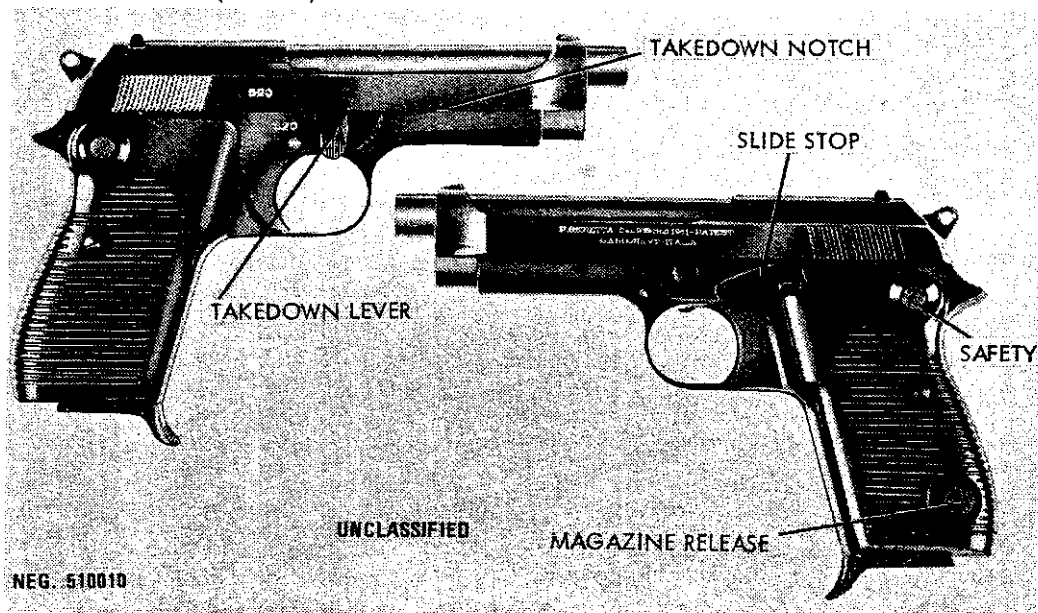
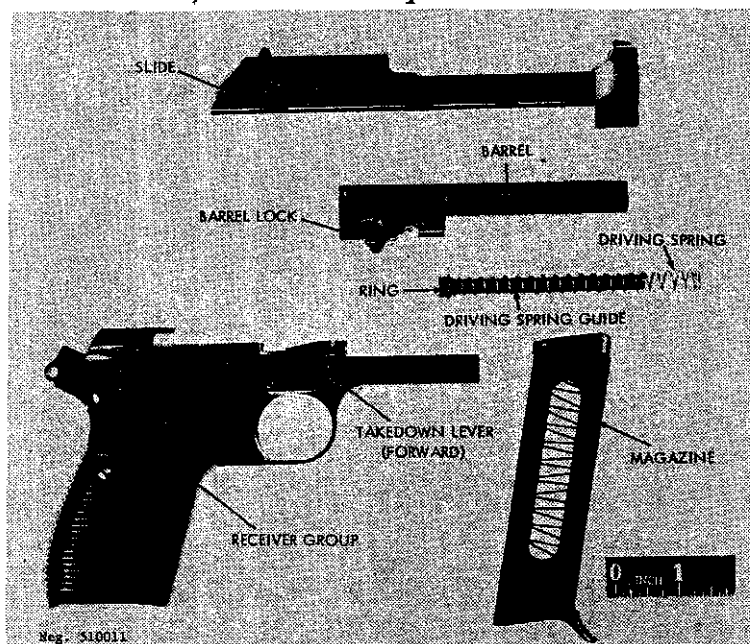
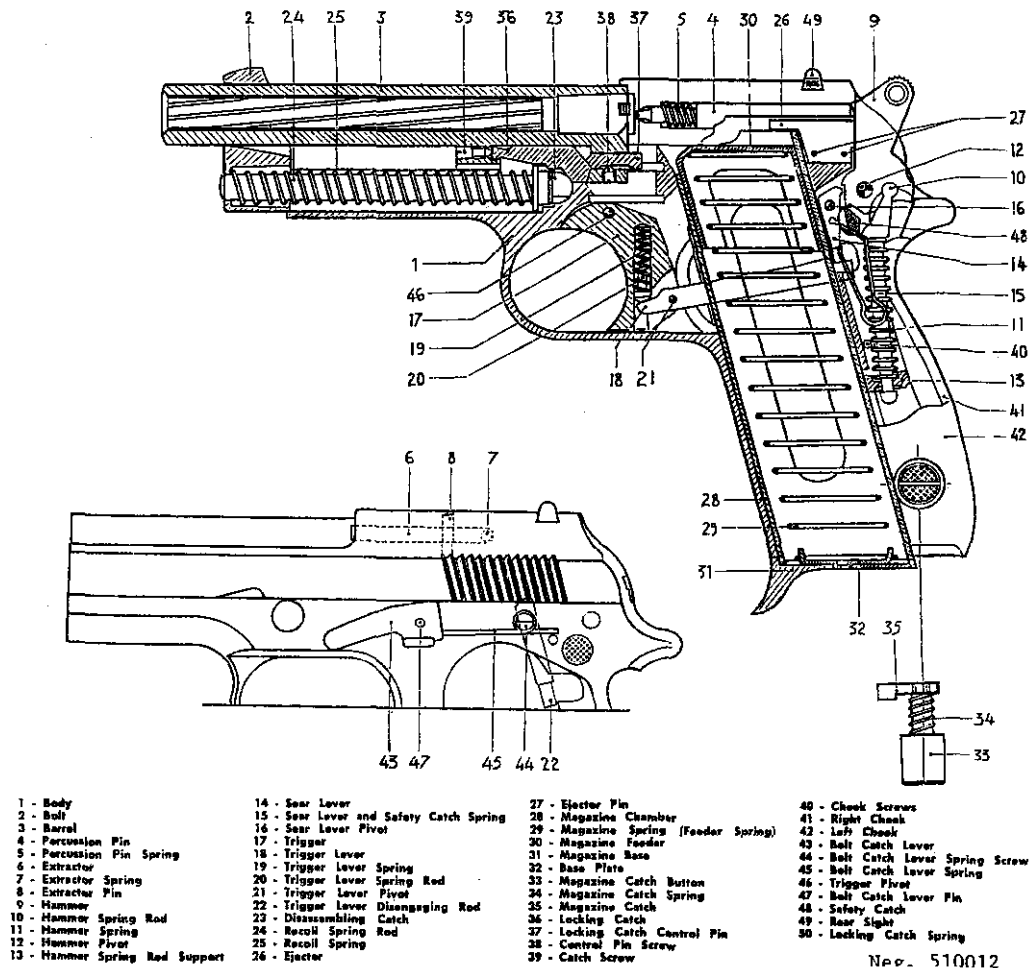

Figure 11. Beretta Model 1951 pistol.
Figure 12. Beretta Model 1951 disassembled.
Figure 13. Beretta Model 1951 section.
The Italian Beretta 9-mm Model 1951 pistol is the standard side arm of the Italian armed forces and has been sold to several other nations. It is a lightweight, recoil-operated, semiautomatic weapon of conventional design (fig 11). The Beretta M1951 fires 9x19-mm ammunition (sec V).
- a. Remove the magazine by pressing the magazine release (fig 11) in the lower left grip and remove the magazine. Load the
c. To render the pistol safe, press the safety, located in the top rear of the grip (fig 11), from right to left. As an alternative, the hammer can be pulled back by the thumb, the trigger pressed, and the hammer eased forward. CAUTION: Point pistol in a safe direction when doing the latter. The pistol is safe when the hammer is down, because the inertia-type firing pin does not touch the primer. The firing pin requires a sharp blow to impart sufficient inertia to it to fire the primer.
d. To fire, either cock the hammer manually or press the safety (fig 11) to the right. Aim—using a conventional sight picture—and press the trigger. The pistol will fire one shot and reload itself. To fire another shot, release and repress the trigger. When the last round in the magazine is fired, the slide will remain back.
e. Remove the magazine by pressing in the magazine release and withdrawing the magazine. The slide can be closed by either manually depressing the slide stop (fig 11) or by pulling the slide slightly rearward and releasing it. Hold the hammer, press the trigger, and ease the hammer home.
a. Clear the pistol (para 16f), but do not insert the magazine or lower the hammer. Hold the pistol in the left hand and with the right hand, push the slide rearward until the takedown lever (fig 11) aligns with the takedown notch in the slide (fig 11). Hold the slide in place with the left index finger (fig 12). Rotate the takedown lever forward. Ease the slide forward, then pull it forward off the receiver.
b. Press the driving spring guide (fig 12) forward to disengage it, then ease it up and rearward and remove it. With the slide inverted, press forward on the unlocking plunger until the barrel just starts to move forward. Lift the rear end of the barrel out of the slide, then pull the barrel rearward out of the slide. Further disassembly is neither required nor desirable.
c. To reassemble the pistol, first insert the barrel into the slide, inserting the muzzle through the hole in the front of the slide. With the slide inverted, push the barrel slowly forward until it drops into the slide; press down on the barrel lock (fig 12) and move the barrel slightly rearward. Insert the driving spring into its housing in the front of the slide. Press the driving spring guide (fig 12) forward, slightly compressing the driving spring, until the large ring on the guide can be seated in its recess on the lock (fig 13).
b. When the hammer is cocked and the trigger is pressed, the trigger bar moves rearward and contacts the sear (fig 13). Continued movement of the trigger bar causes the sear to rotate on its pin and the upper end of the sear disengages from the hammer (fig 13). The hammer spring then drives the hammer against the firing pin, firing the cartridge.
c. Upon firing, the barrel and slide, locked together, recoil rearward. After moving a short distance, the unlocking plunger on the barrel (fig 13) strikes a shoulder of the receiver and stops. The barrel and lock continue rearward, and the now stationary unlocking plunger forces the lock down, releasing the barrel from the slide. The slide, because of its inertia, continues rearward, rocking the hammer rearward and compressing the driving spring.
d. As the slide recoils, the disconnecter (fig 13) is forced down by a cam cut into the slide. The disconnecter, whose bottom end rests on the trigger bar, forces the trigger bar down, out of engagement with the sear. The sear, powered by its spring, snaps back against the hammer (fig 13).
e. The slide, continuing rearward, pulls the fired cartridge case from the chamber by means of the extractor. The extractor holds the case against the slide until the fixed ejector (fig 13)
f. The driving spring (fig 13) now expands and drives the slide forward. The feed rib on the slide drives a cartridge from the magazine into the barrel. As the slide nears its most forward position, it strikes the barrel and drives it forward. The lock rides up a cam in the receiver (fig 13) and locks the barrel to the slide. Forward motion stops when the barrel strikes the takedown lever shaft (fig 13).
i. The sliding safety (fig 13) blocks the sear when pressed to the safe position. When the safety is pressed to the fire position, cutaway sections on the safety allow the sear to move and release the hammer.